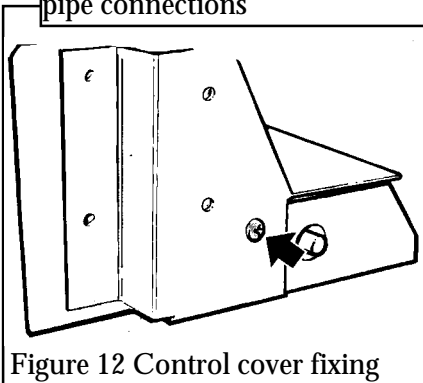

Figure 12 Control cover fixing
- 5) Detach the control unit cover by removing one screw (See figure 12).